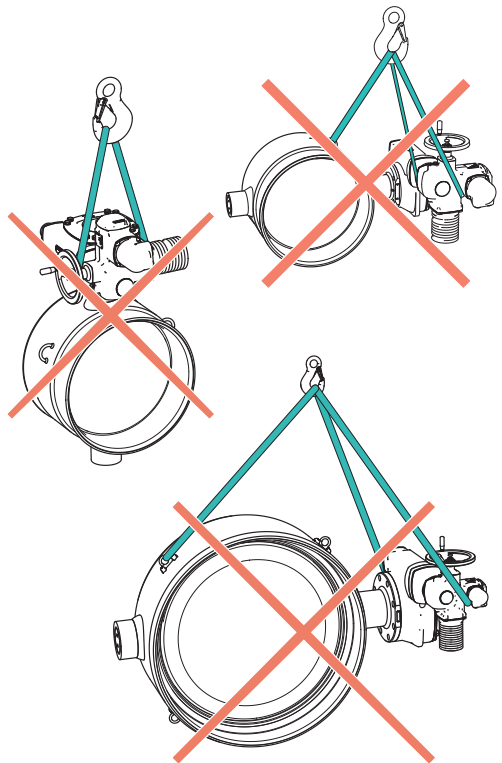
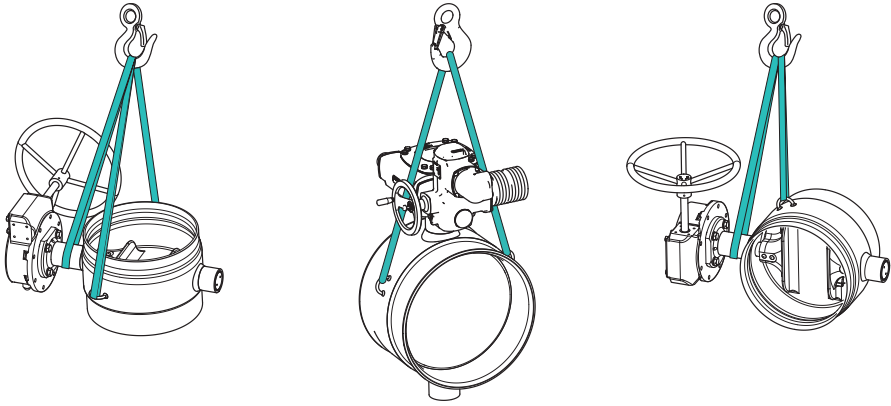

Figure 2. Do not lift the valve by the actuator
Figure 3. Lifting a valve equipped with 2 lifting lugs
The valve must always be lifted by its lifting lugs and upper neck (see Figures 3 and 4). The valve or valve assembly must not be lifted from the actuator (see Figure 2). Even light knocks may damage the actuator or affect the actuator and valve adjustments.
- The valve or valve assembly must not be lifted by the actuator. If the valve is equipped with lifting lugs, use the lugs (see Figures 3 and 4). Dropping or incorrect lifting of the valve can result in personal injury or equipment damage.
- Use one of the allowed lifting methods shown in Figures 3 and 4.